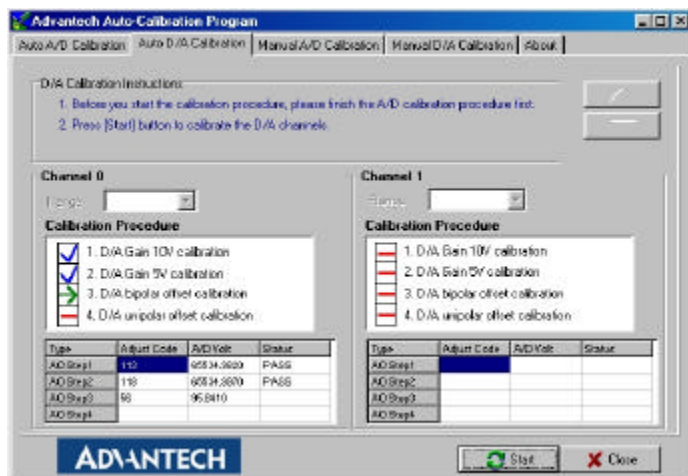

Fig. 5-12 Calibrating D/A Channel 0
Step 10: D/A channel 0 calibration is enabled (Fig. 5-12)